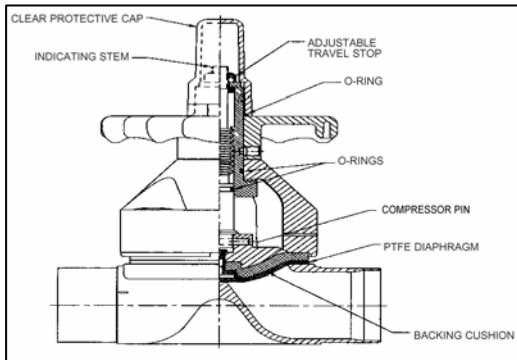

Figure 1
4. Periodically inspect valve compressor pin for excessive wear. Replace pin and/or compressor if excessive wear or axial pin movement. See Figure 1.